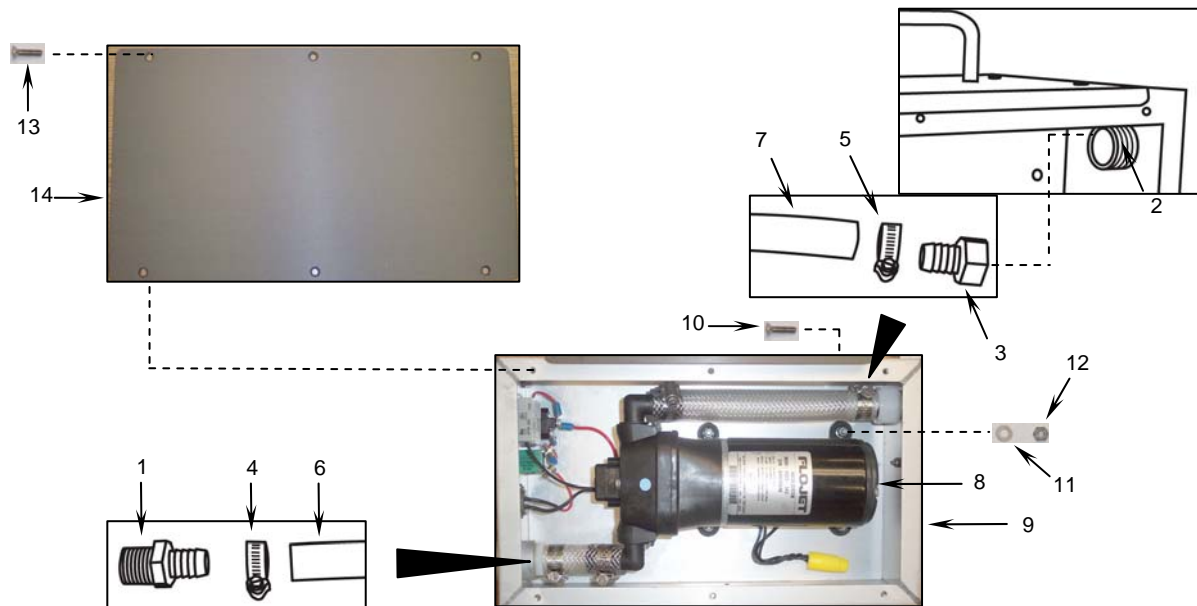

Figure 4. Installing the Sink Fill Pump Assembly Internal Straight Adapters.
- a. Apply sealing compound to the threads of the adapter (**Figure 4, Item 1**) or to the threads of the sink fill pump enclosure pipe nipple (**Figure 4, Item 2**).
- b. Thread the new adapter (**Figure 4, Item 1**) or (**Figure 4, Item 3**) onto the enclosure.
- c. Slide the hose clamp (**Figure 4, Item 4**) or (**Figure 4, Item 5**) over the tubing (**Figure 4, Item 6**) or (**Figure 4, Item 7**).
- d. Push the end of the tubing (**Figure 4, Item 6**) or (**Figure 4, Item 7**) onto the new adapter (**Figure 4, Item 1**) or (**Figure 4, Item 3**).
- e. Slide the hose clamp (**Figure 4, Item 4**) or (**Figure 4, Item 5**) over the tubing end (**Figure 4, Item 6**) or (**Figure 4, Item 7**) and the adapter (**Figure 4, Item 1**) or (**Figure 4, Item 3**) and tighten.
- f. Position the pump (**Figure 4, Item 8**) in the enclosure (**Figure 4, Item 9**) and secure with the four flat head machine screws (**Figure 4, Item 10**), four flat washers (**Figure 4, Item 11**), and four self-locking nuts (**Figure 4, Item 12**).
- g. Apply sealing compound to the six flat head machine screws (**Figure 4, Item 13**). Secure the fill pump cover (**Figure 4, Item 14**) to the sink fill pump assembly enclosure (**Figure 4, Item 9**) using the six screws.